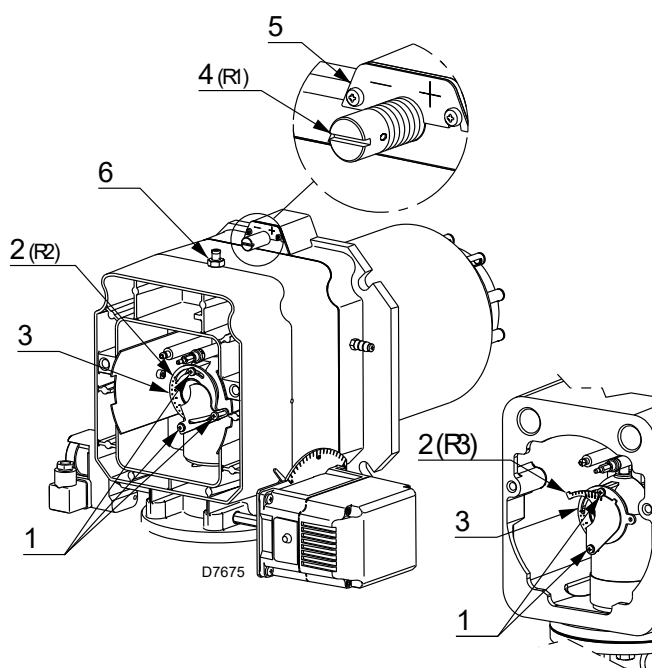

Fig. 20
- Rotate the screw 4)(Fig. 20) until the notch you have found corresponds with the front surface 5) of the flange.
- Loosen the 3 screws 1)(Fig. 20) and rotate the ring nut 2) until the notch you have found corresponds with the index 3).